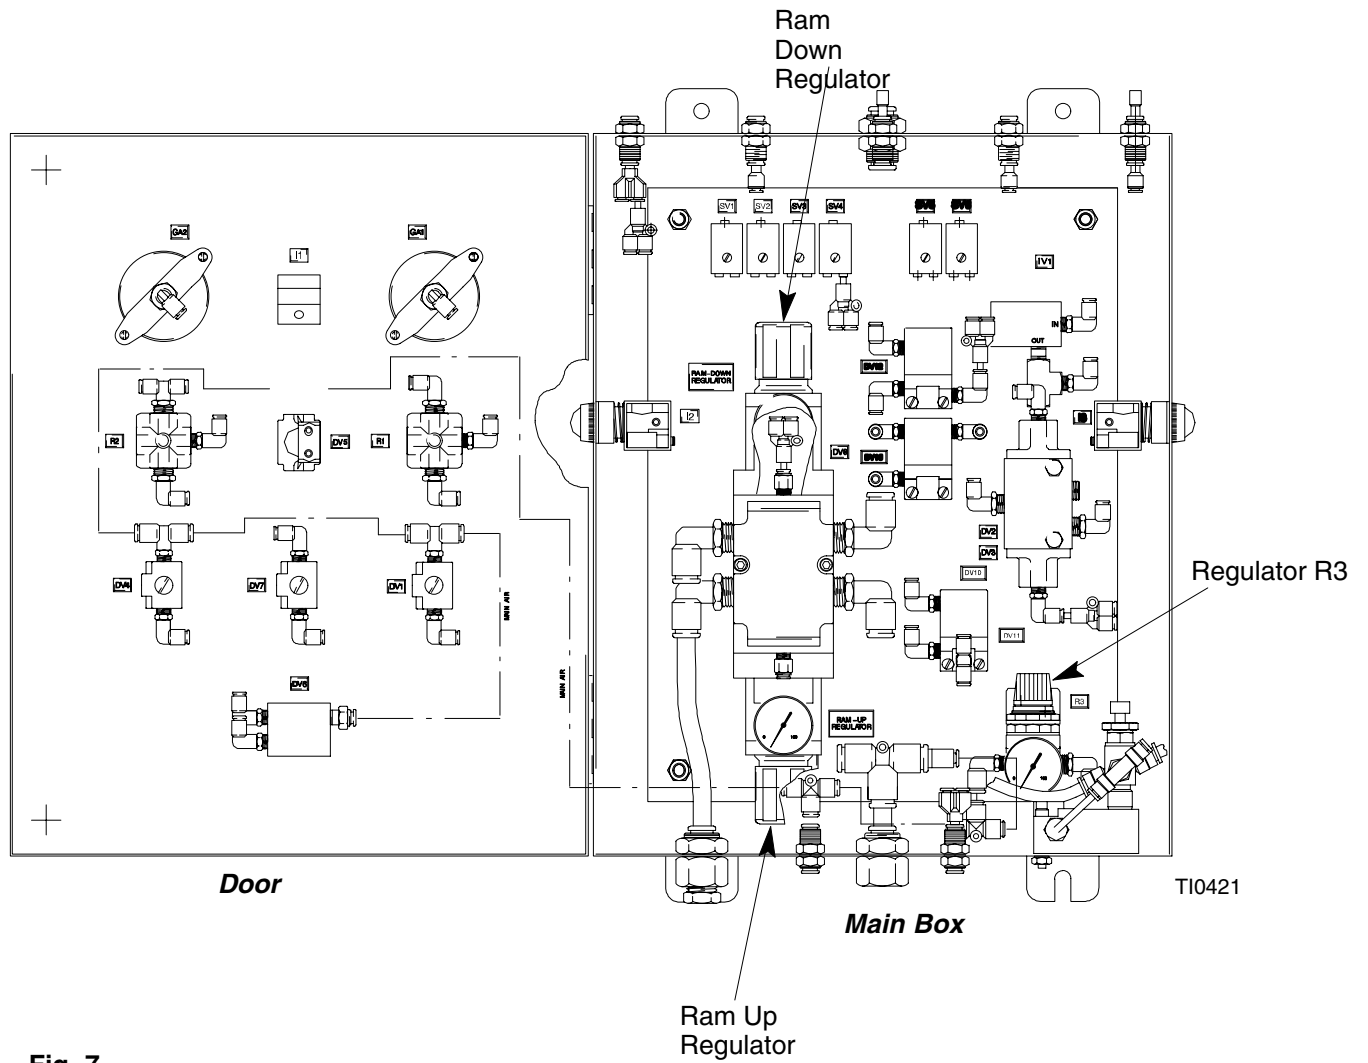

Fig. 7
- Turn the knob clockwise to increase air pressure or counterclockwise to decrease air pressure (see Fig. 7).
20. Set the RAM POSITION switch to RAISE and push the RAM UP pushbutton. Verify that the follower plate (5) elevates at the desired speed. If not, do the following:
- Adjust the RAM-UP REGULATOR. Turn the knob clockwise to increase the amount of air pressure. Check the air gauge to verify that air pressure was increased. (See Fig. 7).
22. Adjust the RAM-DOWN REGULATOR to 50 psi (0.34 MPa, 3.4 bar) as follows (see Fig. 7):